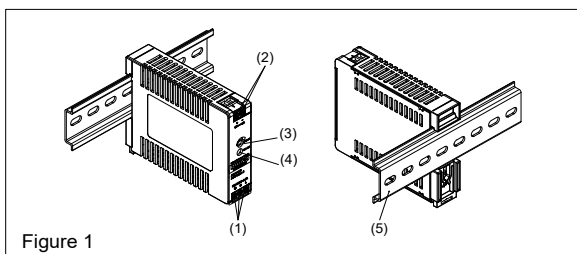
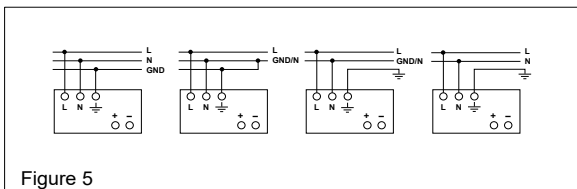

Figure 1
Figure 5
## 2. Device description (Fig. 1)
## 5.1. Input connection (Fig. 1, Fig. 5)
Use L, N and GND connections of input terminal connector (see Fig. 1 (1)) to establish the 100-240 VAC connection. Typical connection methods are shown in Figure 5.
## 5.2. Output connection (Fig. 1 (2))
Use the "+" and "-" screw connections to establish the 5VDC connection. The output provides 5VDC. The output voltage can be adjusted from 5 to 5.5 VDC on the potentiometer. The green LED DC OK displays correct function of the output (Fig. 1 (4)). The device has a short circuit and overload protection and an overvoltage protection limited to 6.325-7.425 VDC.